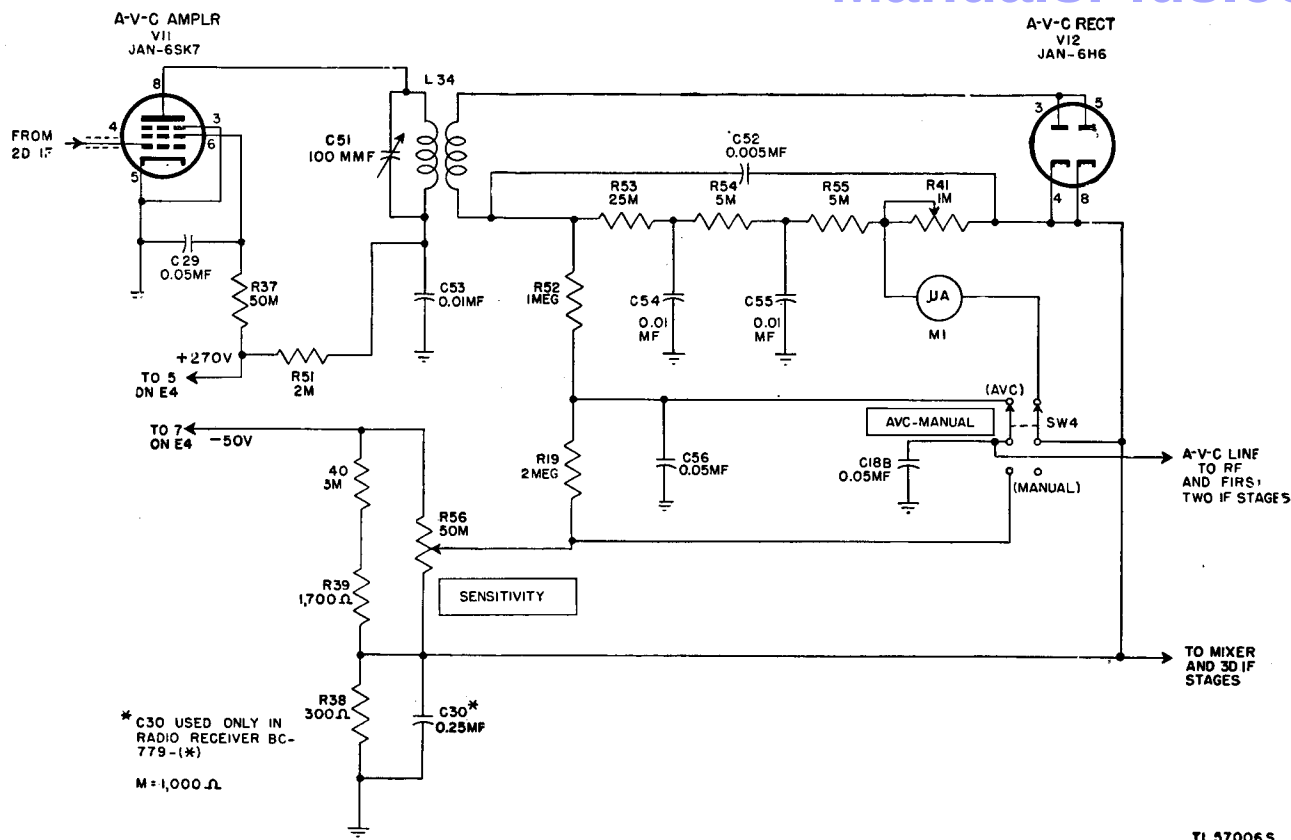

Figure 31. Radio Receiver BC-779-B, functional diagram of a-v-c stages.
a. MIXER TUBE JAN-6L7. For simplicity, capacitor C71, main tuning ganged capacitor C1C, and band spread ganged capacitor C2C are represented as a single variable capacitor C across the inductance trimmed secondary of r-f transformer L18. Signal voltages across C are applied through 600-mmfd capacitor C11 to signal grid G1 (top cap) of pentagrid mixer Tube JAN-6L7. Fixed bias from the voltage divider (fig. 31) is applied through a filter circuit (10,000-ohm resistor R10 and 0.01-mf capacitor C12) and 500,000-ohm grid resistor R9 to the signal grid. Screen grid G2 and G4 (pin 4) forms a screen about injection grid G3 (pin 5), and the h-f oscillator output is coupled through 95-mmfd capacitor C13 to the injection grid. Since the screen grid shields the signal and injection grids from one another, the tube electron stream is modulated independently by the r-f and oscillator signals. Heterodyne action produces sum and difference frequencies in the mixer output. The primary of transformer T1 is tuned by C21 to the 465-kc *difference* frequency to which the i-f amplifier is also tuned. The i-f voltage across the secondary winding of transformer T1 is applied to the crystal filter.
b. H-F OSCILLATOR TUBE JAN-6J7. The plate (pin 3), suppressor grid (pin 5), and screen grid (pin 4) of Tube JAN-6J7 are tied together and the tube is used as a triode in a Hartley oscillator circuit. The h-f oscillator operates at a frequency exactly 465 kc higher than that of the received signal except as in c(1) below. Plate voltage is shunt-fed by means of a 12,000-ohm resistor R14 and a 0.01-mf capacitor C16. Resistor R14 isolates r-f energy to the oscillating circuit, and capacitor C16 couples the plate to the tank circuit. The cathode is connected to a tap on tank inductance L23. Consequently, tube current passes through a portion of the tank inductance and excites the tank circuit into oscillation. Grid excitation is obtained from the upper (larger) section of tank coil L23 and coupled to the grid (top cap) of V4 by 1,220-mmF capacitor C81, and 50-mmF capacitor C15. Oscillator bias is developed by the grid-leak capacitor combination 50,000-ohm resistor R13 and capacitor C15. The frequency of oscillation is a function of the inductance of L23 and the effective capacitance of capacitors C76, C81, C1D, and C2D. Capacitor C76 is a 4- to 28-mmF trimmer which enables alinement at the h-f end of the main tuning dial; the inductance trimming adjustment of L23 is used for alinement at the l-f end; capacitor C81 is a fixed 1,220-mmF l-f padder; capacitor C1D is the oscillator section of the ganged main tuning capacitor; and capacitor C2D is the oscillator section of the ganged band spread tuning capacitor. The r-f voltage between the tank tap and ground is coupled through 95-mmF capacitor C13 to the injection grid of mixer Tube JAN-6L7. The 50,000-ohm resistor, R11, acts as a grid leak for the injection grid of the mixer tube.
65. A-V-C Circuit (fig. 31)
and to the control grid (pin 4) of the a-v-c amplifier stage V11 (fig. 31). V7 and V11 have a common grid circuit, including fixed bias. The suppressor and cathode of V11 are grounded; screen voltage is applied to pin 6 through 50,000-ohm series-dropping resistor R37; and the screen is bypassed by 0.05-mf capacitor C29. Plate (pin 8) voltage is applied through 2,000-ohm filter resistor R51 and the primary of transformer L34. The primary of L34 is tuned to 465 kc by 100-mmf capacitor C51, and capacitor C53 (0.01-mf) bypasses high frequencies to ground. The transformer secondary is untuned.